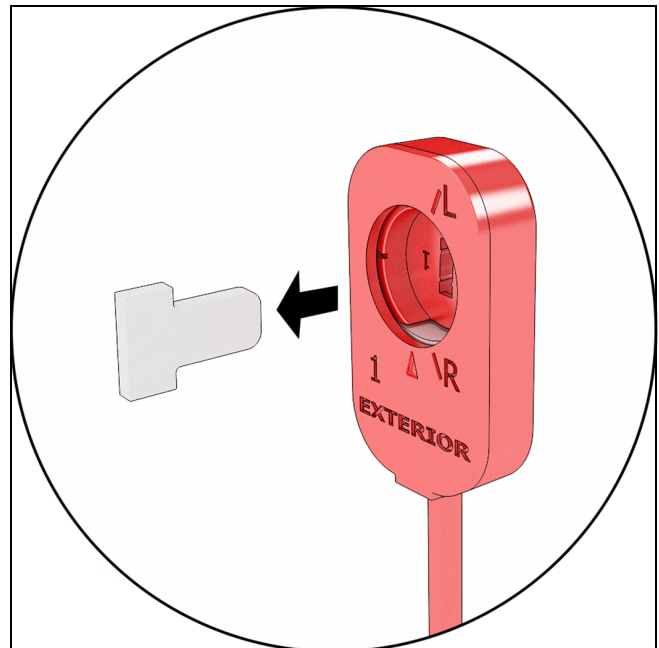

Figure 32
3. On all doors with keyed cylinders. Remove the t-shaped adapter from the micro-switch located on the exterior side of the panel. Use a needle nose pliers and discard. See Figure 32.